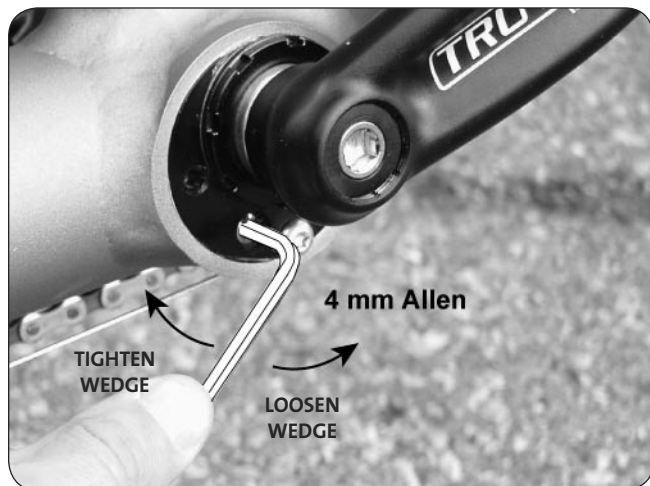

FIGURE 2
2. Insert a 4 mm Allen key into the wedge bolt and turn it counter-clockwise to loosen the wedge. See Fig 2.